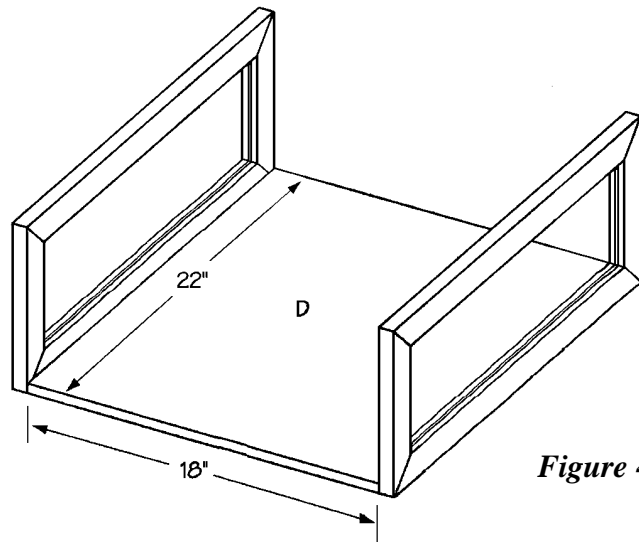
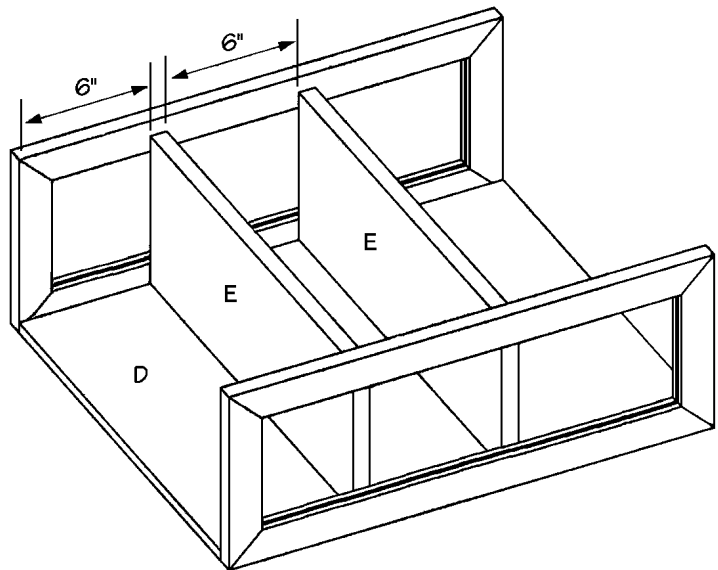
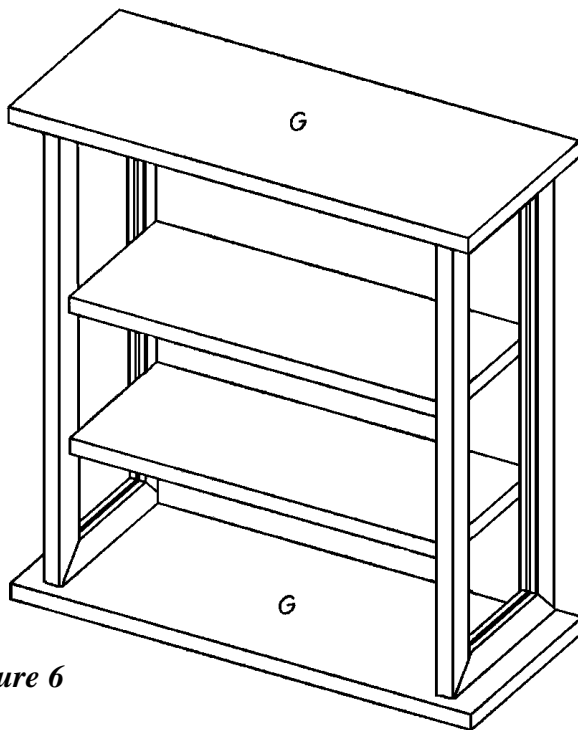

Figure 4
Figure 5
Figure 6
1. Cut one back (D) from 1/2" plywood, measuring 18 x 22 inches.
inches apart. Place the back (D) between the two sides, matching the 22-inch-long edges, as shown in *Figure 4*. Screw through the vertical sides (A) into the edges of the back (D) using five 1-1/2" screws on each joint.
3. Cut two shelves (E) from 1 x 8 pine, each measuring 18 inches long.
4. Fit one shelf (E) between the two side assemblies, 6 inches from the bottom of the cabinet, and flush against the back (D), as shown in *Figure 5*. Nail through the cabinet vertical sides (A) into the shelf (E) using two 1-1/2" 4d-finishing nails on each joint.
5. Repeat Step 4 to attach the second shelf (E) 6 inches above the first, as shown in *Figure 5*.
6. Cut two top/bottoms (F) from 1 x 10 pine, each measuring 22 inches long.
7. Each of the top/bottoms (G) will be centered side-ways on the open ends of the cabinet assembly and placed flush with the back of the cabinet as shown in *Figure 6*. Apply glue to the ends of the side assembly and the edge of the back, and nail through the cabinet top/bottoms into the edges of the back and side assemblies, using 1-1/2" 4d finishing nails spaced every 4 inches.